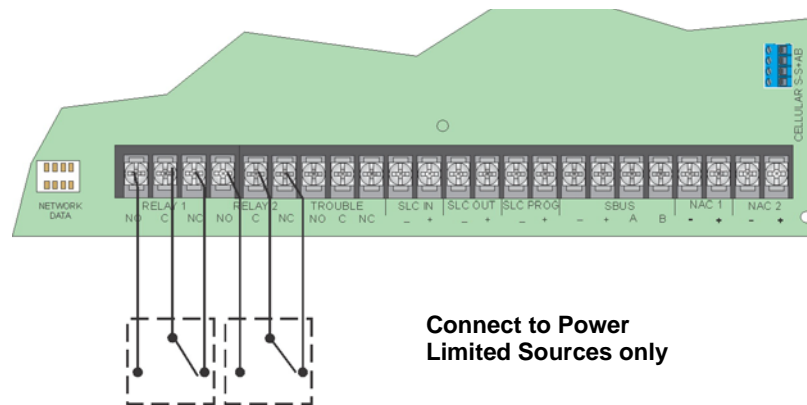

Figure 4.48 Location of Conventional Relay Circuits
1. Wire Relay 1 and/or Relay 2 as needed for your application. See Figure 4.48 for the location of the relay terminals.